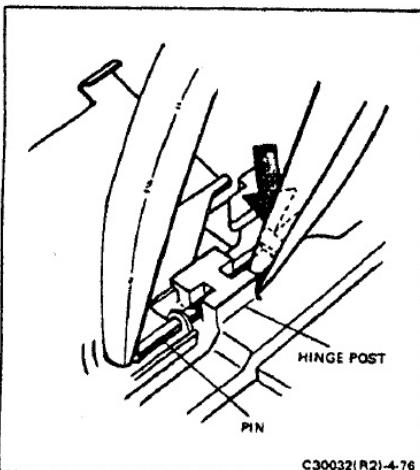

FIGURE 4-76 USING PLIERS TO INSERT LIGHT BAFFLE HINGE PIN
- Using tweezers or needle-nose pliers, insert the end of the pins into the hinge holes from the center of the camera (Figure 4-76).
- Install the baffle with its spring on the right-hand pin. Use pliers with one jaw on the outside of the hinge post and squeeze the pin outwards until it reaches the stop (Figure 4-76).